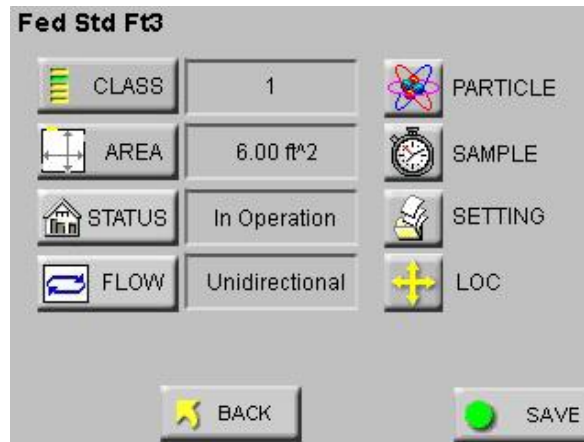

Figure 6-99 Reports Setup Screen
- Press the BACK button then select BACK to return to the main REPORTs screen or select SAVE to save the configuration in the Recipe database. See Figure 6-99.